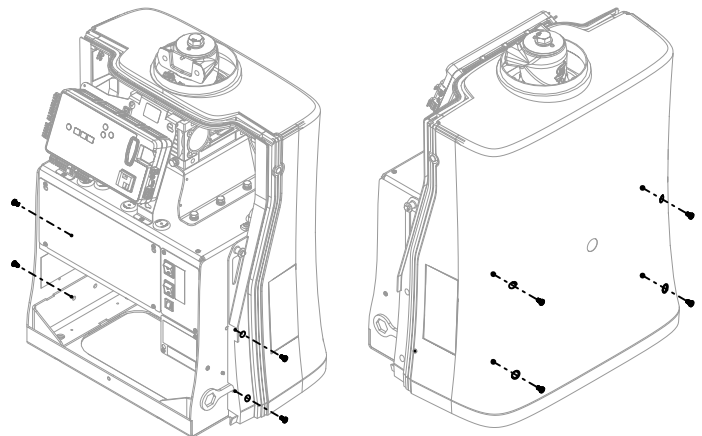

Figure 26. Install M5 Screws to Sides and Back
4. Attach two M5 screws to both sides of the back cover (Figure 26).
5. Attach four M5 screws to the rear of the back cover (Figure 26).